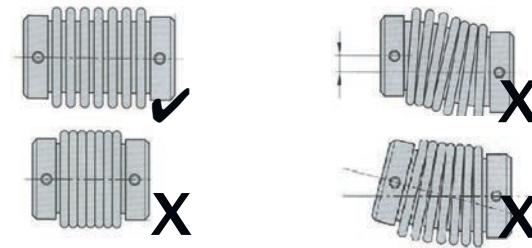

Figure 1: Coaxiality
- Loosen the 2 hexagon socket screws (1) on the clamping ring (2) with a hexagon socket wrench size 1.5.
- Take note of the mounting information in Figure 1. Min. = 6 mm, max. = 21 mm
- Fasten stator coupling (3) with 2 screws M3 and washers (4). While doing so, make sure that you selected a tightening torque that ensures that the encoder will not to twist.
- Lightly tighten both hexagon socket screws (1) on the clamping ring (2) (torque 0.2 Nm) then subsequently tighten up fully. Locking torque = 0.6 Nm.